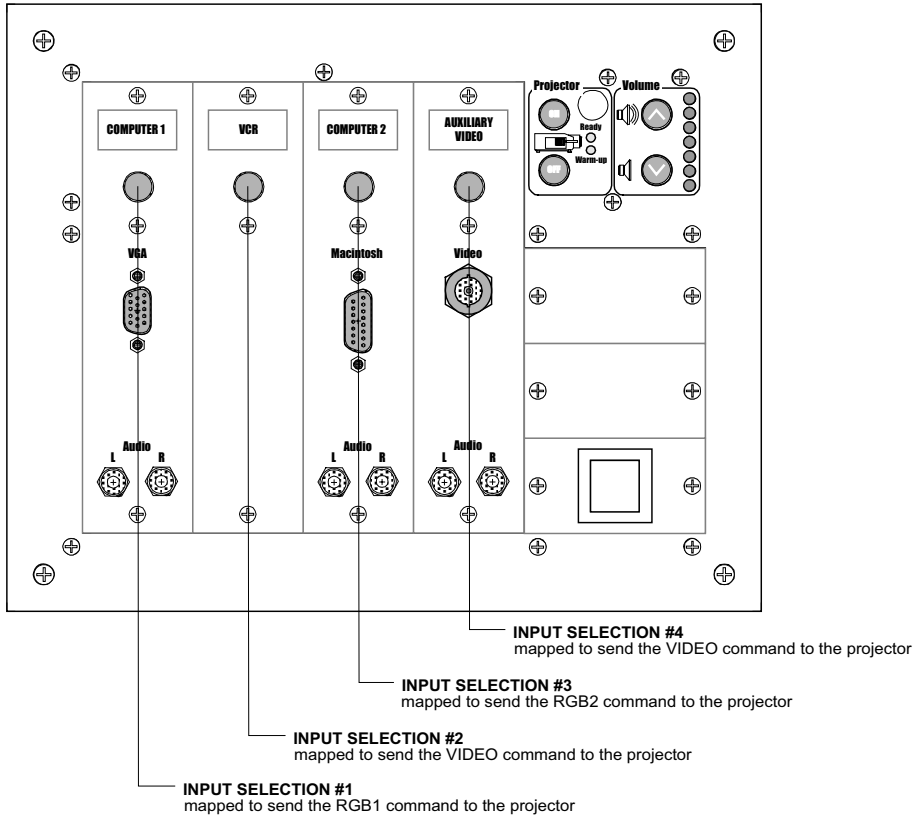

Figure 9: Example coordination of Input Mapping with Modules and Legends
**Figure 9** shows how a Panel with inputs mapped in this fashion might be assembled.